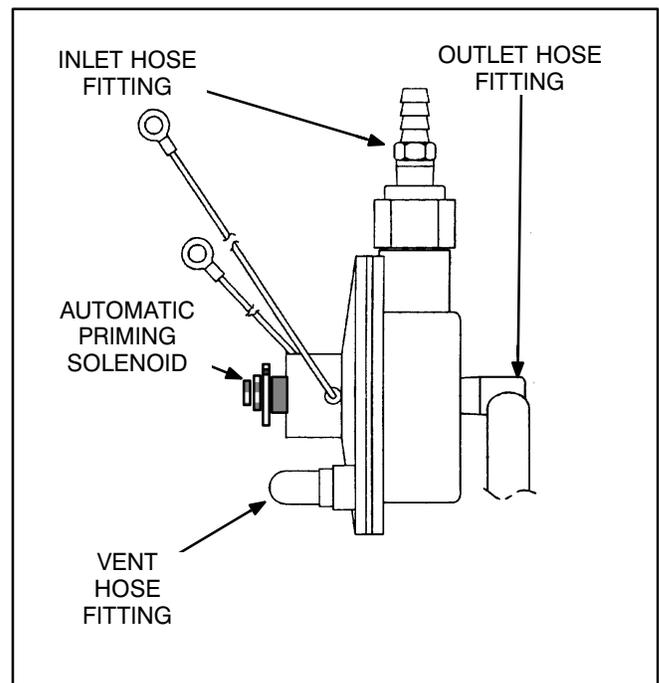

FIGURE 8-13. TOP VIEW OF DEMAND REGULATOR WITH AUTOMATIC PRIMING SOLENOID (PRIOR TO SPEC L (MODEL KY) OR SPEC B (MODEL KYD))
The demand regulator assembly supplies fuel to the carburetor. It is usually not the cause of fuel system problems. All other possible causes should be checked out before adjusting or replacing the demand regulator assembly. Figure 8-13 illustrates the regulator with priming solenoid used prior to Spec L on Model KY or Spec B on Model KYD. The demand regulator on later models does not have a priming solenoid.
1. Connect the regulator inlet (Figure 8-13 on Page 8-15) to a source of air pressure regulated to 11 inches WC (Water Column).